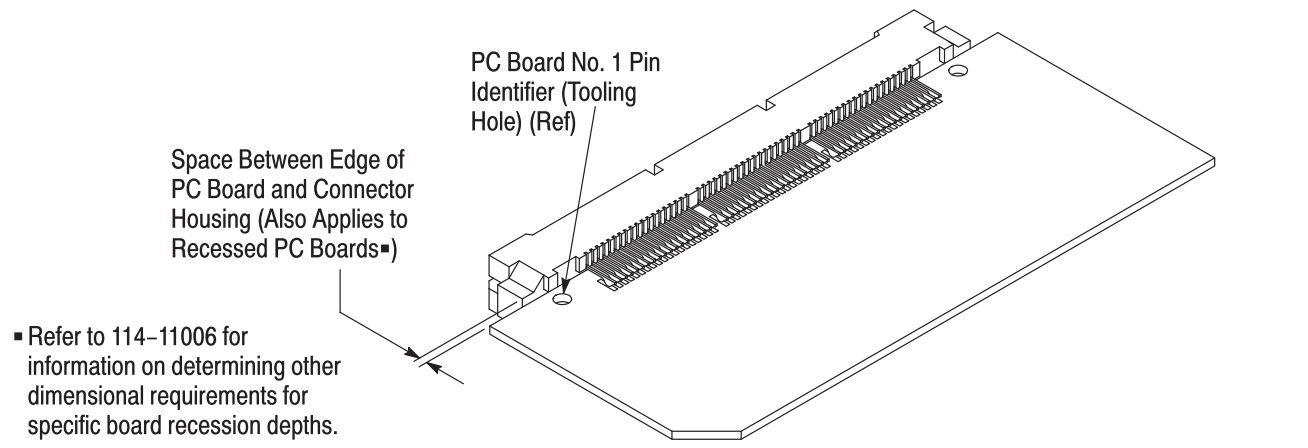

Figure 8
6. Inspect the connector to make sure that there is space between the edge of the pc board and the connector housing. See Figure 8.
The tool is pre-set to provide a nominal space of 0.25 mm [.010 in.] for plugs and 0.43 mm [.017 in.] for receptacles. This space will vary according to the position of the tooling hole (refer to Figure 8). For detailed information concerning connector inspection, refer to 114-13088.